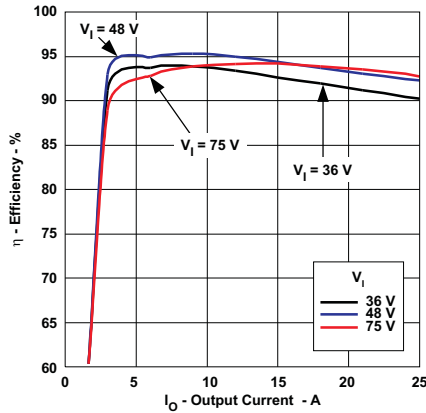
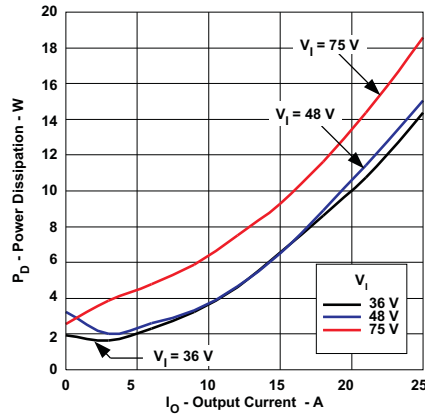
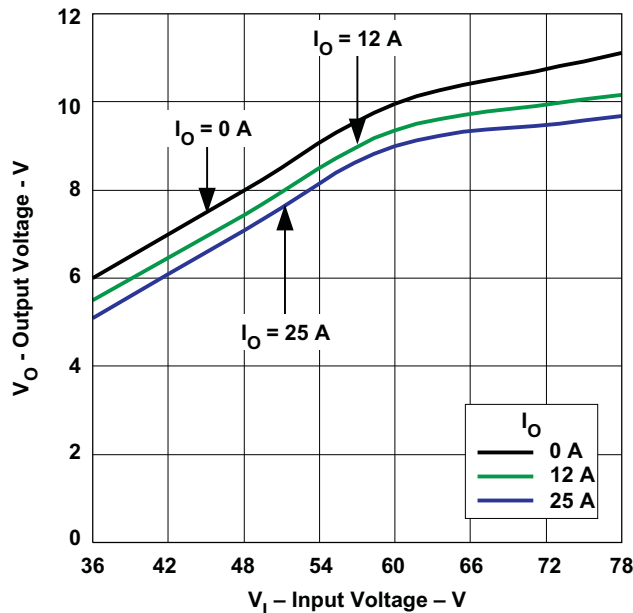
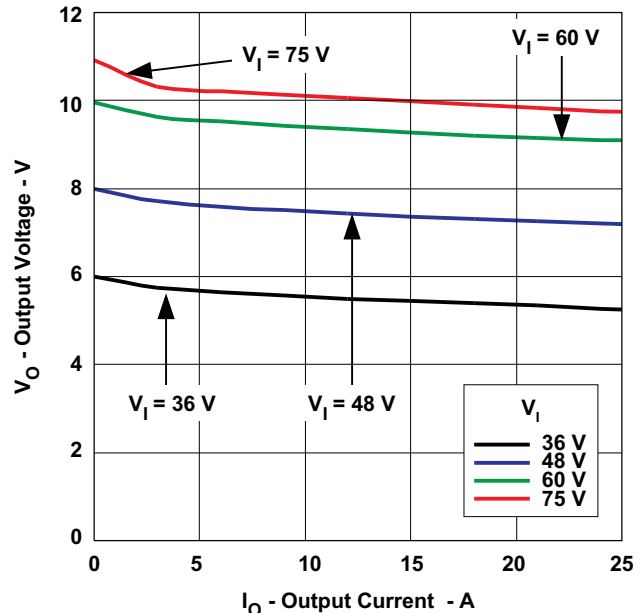

Figure 1.
Figure 2.
Figure 4.
Figure 5.
- (1) All data listed in Figure 1, Figure 2, Figure 4, and Figure 5 have been developed from actual products tested at 25°C. This data is considered typical data for the dc-dc converter.